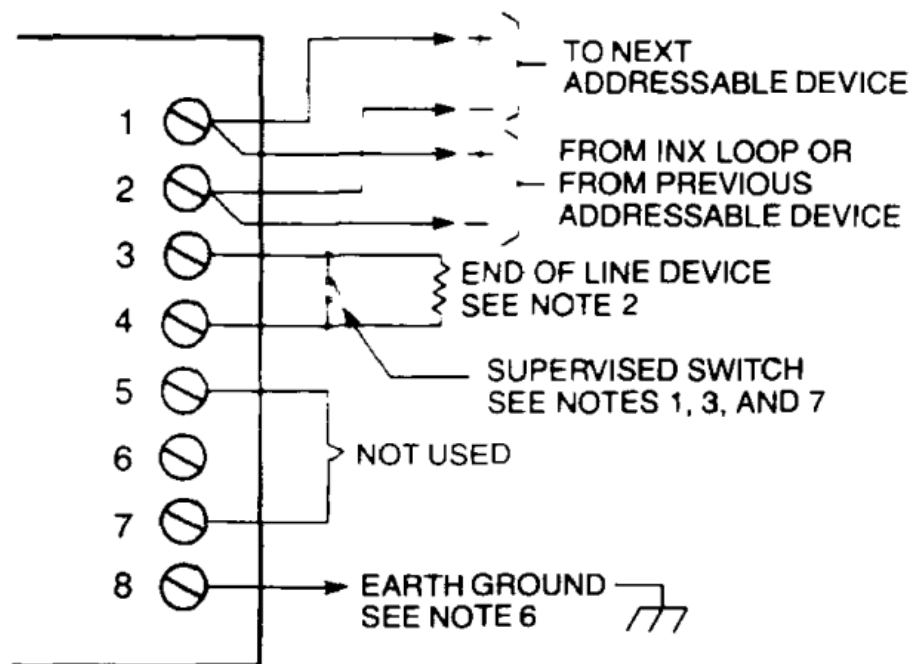

FIGURE3
3. Refer to the appropriate wiring diagram (FIGURE 3, 4, or 5) and wire the addressable interface module accordingly. model and another X marked to indicate the wiring connections to be made to that module.
4. Refer to the appropriate wiring diagram (FIGURE 3, 4, or 5) and wire the addressable interface module accordingly.